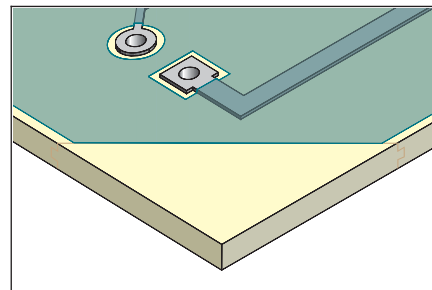

Figure 5 Saw off excess new base material.
14. Saw or mill off excess base material and file flush with existing edge. (See Figure 5.)